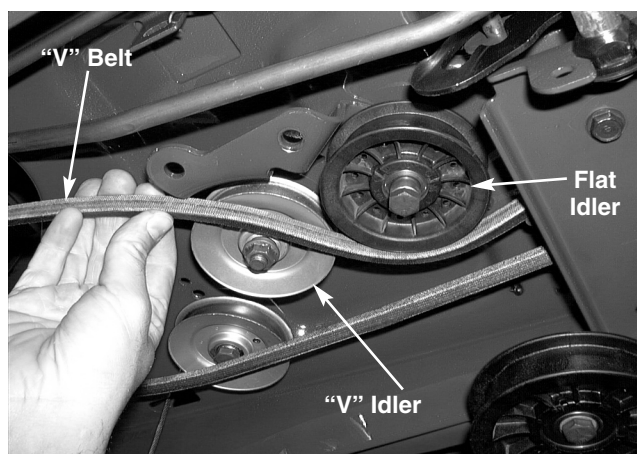

FIGURE 3.
7. Roll the "V" belt out of both the "V" idler and the flat idler on the double idler bracket assembly. See figure 3.